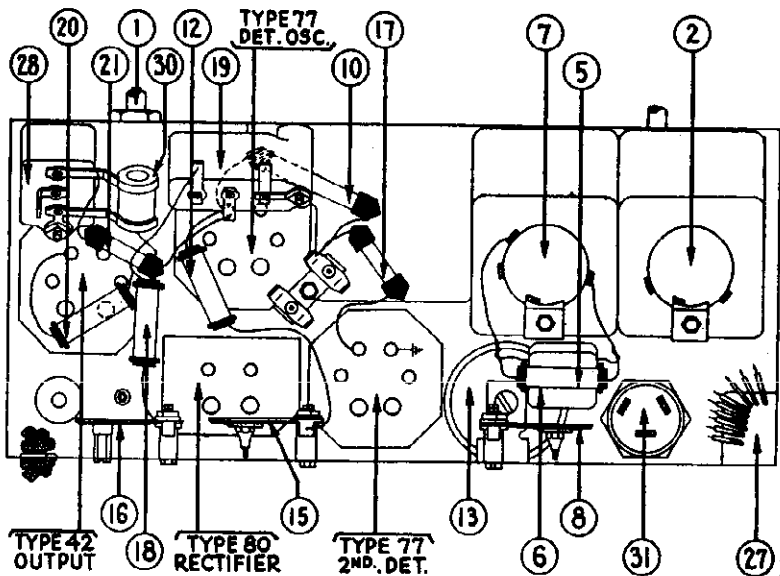

Fig. 4—Base View
*Does not show in Fig. 4.
(1)—I. F. (Intermediate Frequency)—Remove grid clip from cap on 6A7 tube and connect antenna lead from signal generator to cap of tube. Connect ground lead to ground post on set. Turn on set and signal generator; set wave switch of latter to 460 K. C. (the I. F. of Model 66) and dial of set at 540, wave band switch to left. Adjust each of the four I. F. compensating condensers (17, 19, 23 and 24) in turn so that maximum reading is obtained in the output meter. If the meter reading goes off scale, adjust the attenuator on the signal generator so as to get a lower reading. These I. F. condensers (visible in Fig. 4) are adjusted by inserting the
(2)—WAVE TRAP—Replace grid clip on cap of 6A7 tube and connect antenna lead from signal generator to antenna post on set. Set signal generator at 460 K. C. and adjust wave trap (1) so as to get MINIMUM reading in output meter.
(3)—ANT. and OSC. H. F.—These adjustments (7) and (11) are located on top of the tuning condenser assembly at right (facing front of set) and adjusted from above. The "ANT" (7) is nearest front of set. Set signal generator at 1700 and dial of set at 1700 and adjust these two condensers to get maximum output meter reading.
(4)—OSC. L. F.—This condenser (13) is located underneath chassis (see Fig. 4) and is reached from underneath. Set dial of set and signal generator switch at 600, and adjust for maximum reading.